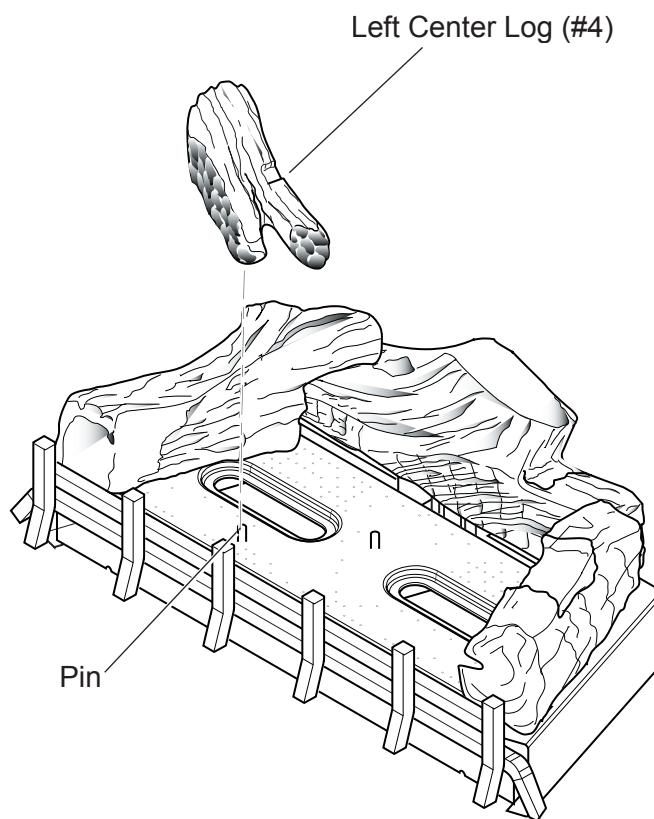

Figure 21 - Installing Left Center Log #4
6. Line up hole in bottom left center log (#4) with pin on burner. See *Figure 21*.